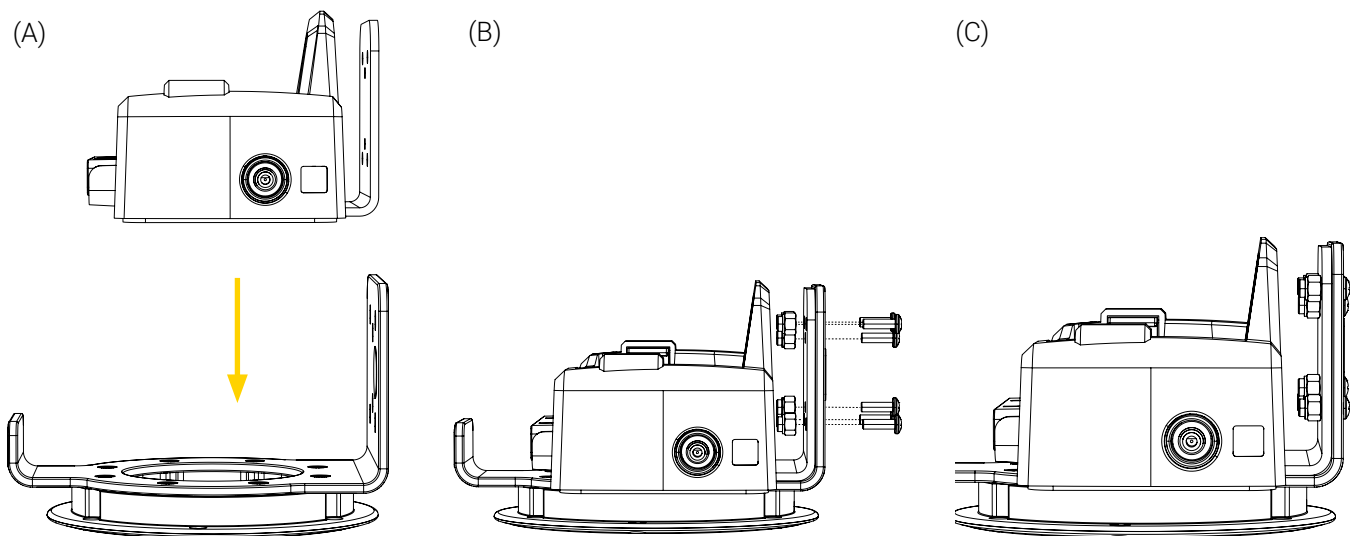

Figure 2: Installing the SMART mount in the Bracket Pro Serie 76 PX SMT
1. Insert the SMART mount in the bracket, between the handle and rear fold (Figure 2 A).
2. Press the SMART mount bracket against the rear fold and attach the parts using the 6 screws and nuts (Figure 2 B and Figure 2 C).